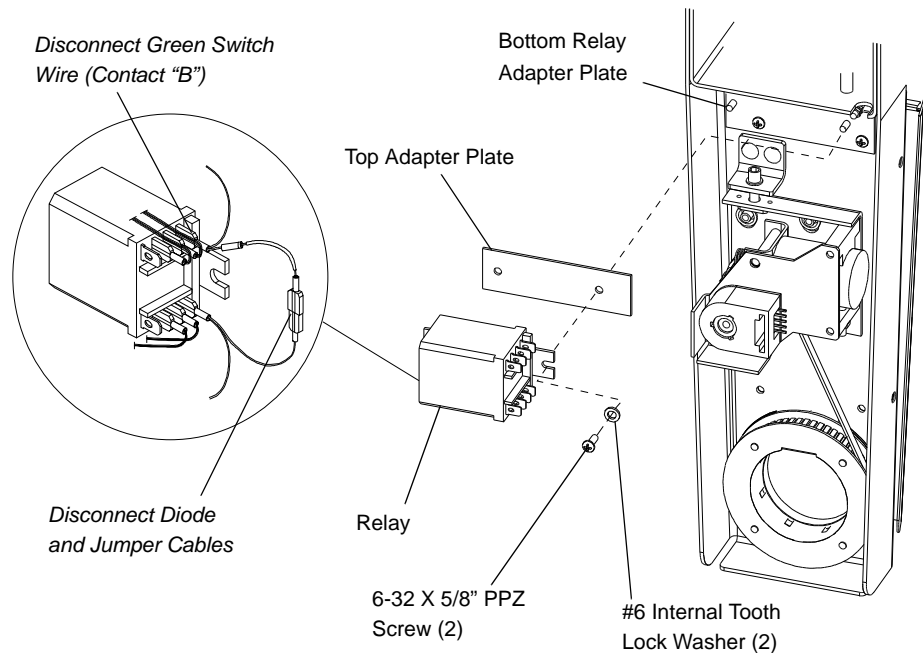

Figure 2-13: Removing Relay to Access Cables
- 1) At relay, using #2 Phillips screwdriver, remove two 6-32 X 5/8" PPZ screws and two #6 lock washers securing relay and top relay adapter plate to bottom relay adapter plate, and remove relay and top plate. **Figure 2-13.**